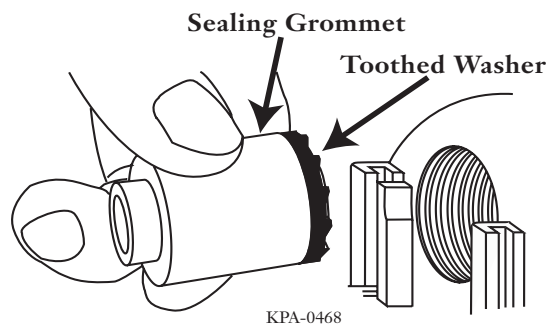

Figure 24 — Washer Orientation
**Step 4** Place a toothed washer onto the sealing grommet and insert both into the opened port from the strain-relief side of the end cap (Figure 24). Verify correct placement of toothed washer on grommet.